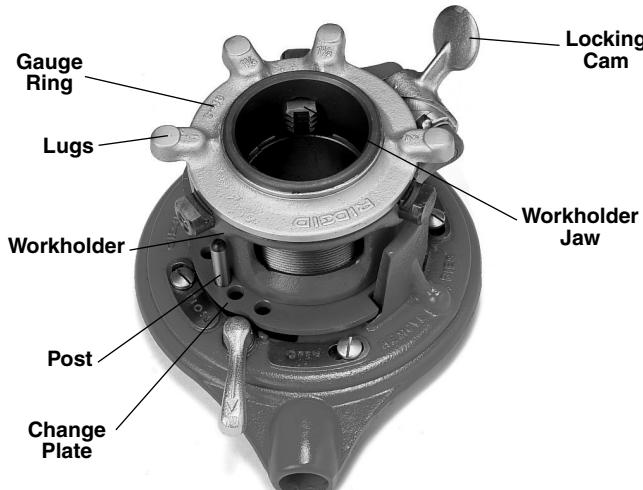

Figure 2 – 65R-TC Threader
65R-TC: Turn gauge ring until desired pipe size is aligned with locking cam (*Figure 2*).
7. Secure workholder on the pipe by tightening the clamp screw (*Figure 1*) or the locking cam (*Figure 2*).